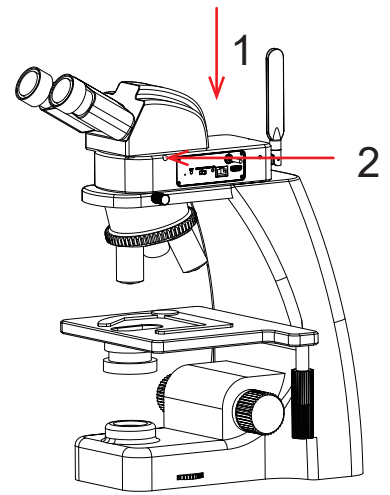

Figure 3
- (3) Installation for the objective end of the microscope, as shown in Figure 3: